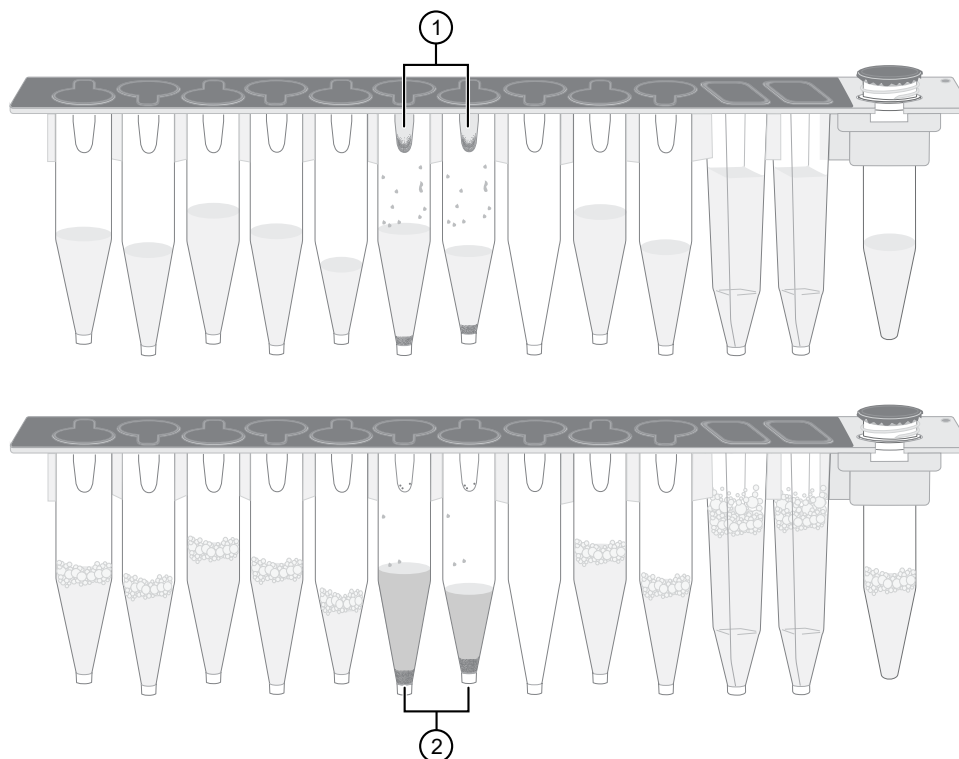

Figure 10 Example Genexus™ Strip 3-GX5™ before (upper) and after (lower) inversion. The carrier has been removed to show tube contents more easily.
- d. Check tube positions for significant amounts of beads that remain trapped in keyholes (see Figure 10), then repeat the centrifugal motion, if needed. It is acceptable if a few beads remain in the keyhole or on the tube wall, but most should be either in suspension or in a pellet at the bottom of the tube.